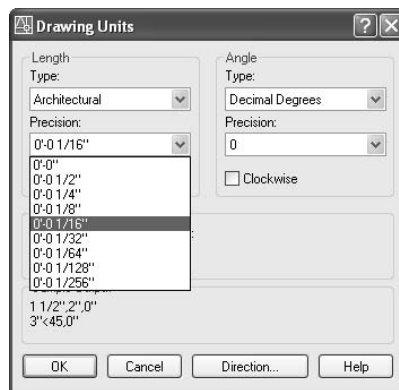

FIGURE 3.2: The Precision drop-down list for Architectural units
5. Click the arrow in the Precision drop-down list in the Length area to display the choices of precision for Architectural units (see Figure 3.2). This setting controls the degree of precision to which AutoCAD will display a linear distance. If set to $\frac{1}{16}$ ", any line that is drawn more precisely—such as a line 6'-3 $\frac{1}{32}$ " long—is displayed to the nearest $\frac{1}{16}$ " or, in the example, as 6'-3 $\frac{1}{16}$ ". But the line will still be 6'-3 $\frac{1}{32}$ " long.